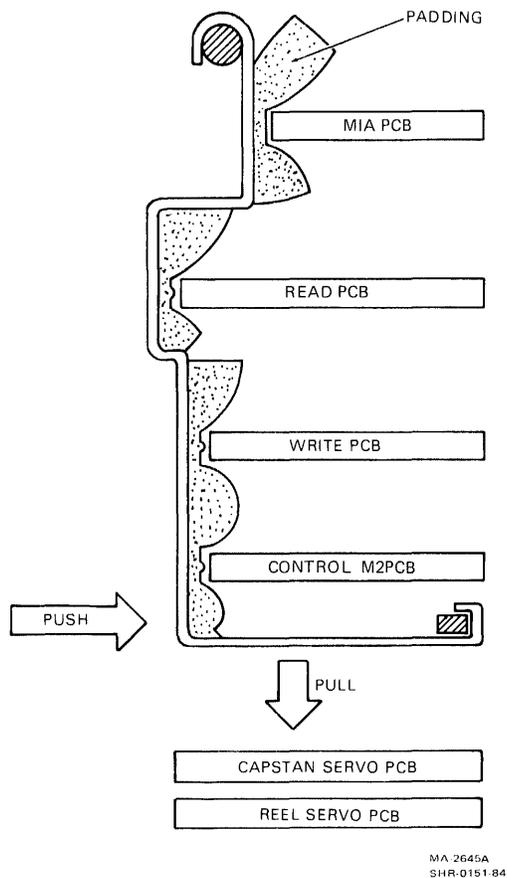

Figure 2-6 PCB Retainer Bracket (Side View)
12. Remove the PCB retaining bracket by pushing in on the lower front and pulling down from underneath (Figure 2-6).